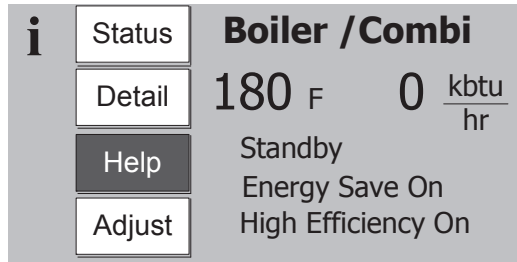

Figure 12.2c: Home Screen with Active Fault
- 13) If there is a problem that appears before the first try for ignition, or if the boiler fails to light after six tries for ignition, the blinking “HELP” button is highlighted on the Home screen (Figure 12.2c). Touching this “HELP” button will take the user to the Diagnostics menu where the cause of the problem can usually be found by pressing the flashing button on each successive screen.